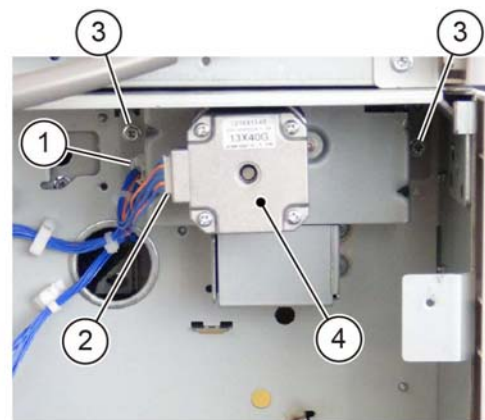

Figure 2 1TM takeaway motor removal
2. Remove the 1TM takeaway motor, **Figure 2**:
- a. Release the clamp (1).
- b. Disconnect the connector (2).
- c. Remove two screws (3).
- d. Remove the 1TM takeaway motor (4).